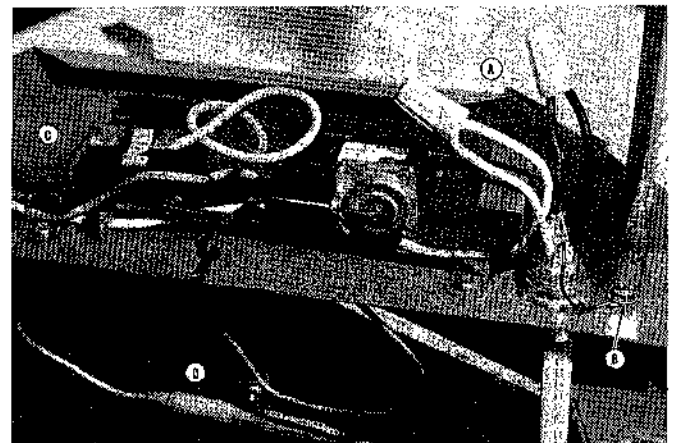

Figure 5.
a. Attach Ground Wire to Control Panel using the Green Head Screw next to the supply wire Connector. (See B, Figure 5)
b. Remove wire nut from the White Wire in the Control Panel and connect to the White Supply Wire. Twist wires together and screw the wire nut on securely. (See A, Figure 5)
c. For connecting the Black Wire of the Control Panel to the Black Supply Wire, repeat the procedure as in step b. above. (See A, Figure 5)
d. Fold the White Wires and Black Wires around Angle Bracket in the Control Panel Assembly (see Figure 5) before attaching the Control Panel to the Ceiling Frame.